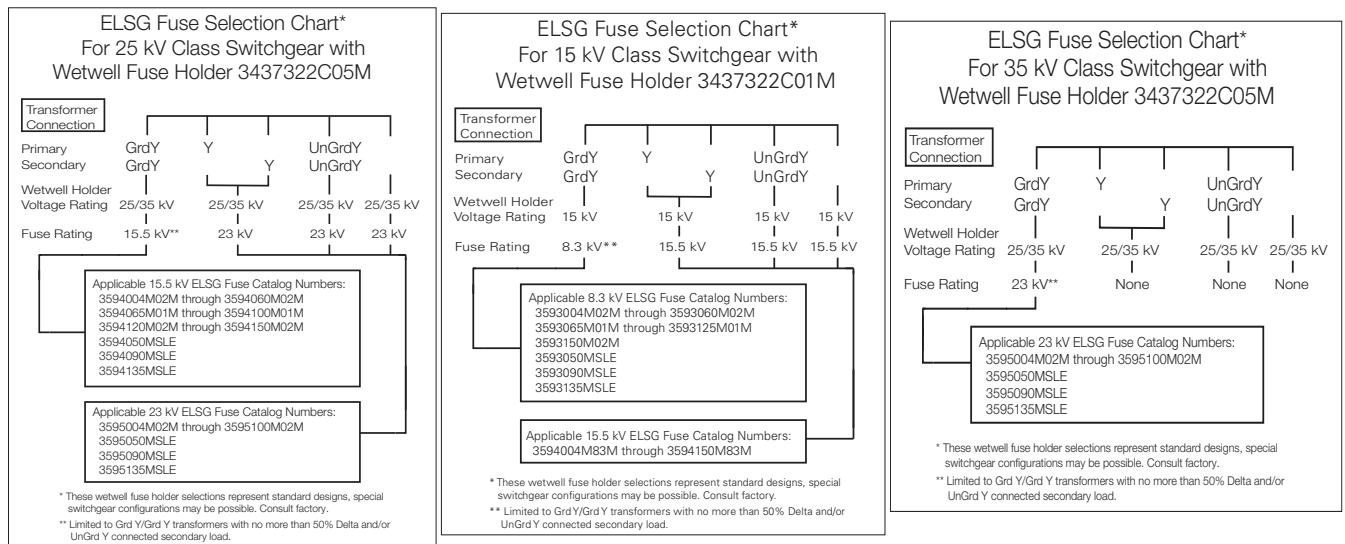

Figure 5. Fuse/wetwell fuse holder compatibility charts
6. Assemble and install fuses. If the switchgear is equipped with fuses, be sure that the fuses are rated correctly for the installation and that they are properly installed. Further verify that the fuses are compatible with the wetwell fuse holder(s) supplied with the switchgear. Refer to **Figure 5** to ascertain fuse/wetwell fuse holder compatibility.
Follow locally approved operating practice whenever changing fuses. Verify that the replacement fuses are compatible with the fuse holder(s) supplied with the switchgear. Refer to **Figure 5** to ascertain fuse/wetwell fuse holder compatibility.